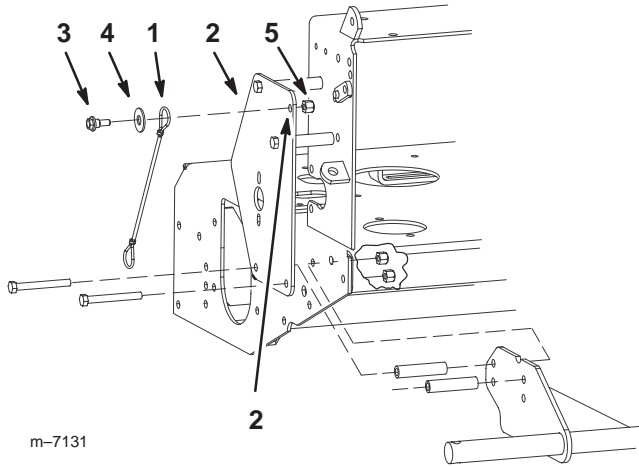

Figure 7
1. Install the lanyard to the upper rear hole in the linkage guard. Secure the lanyard with 1 shoulder bolt, 1 washer (9/16 inch) and 1 locknut (9/16 inch) (Fig. 7).